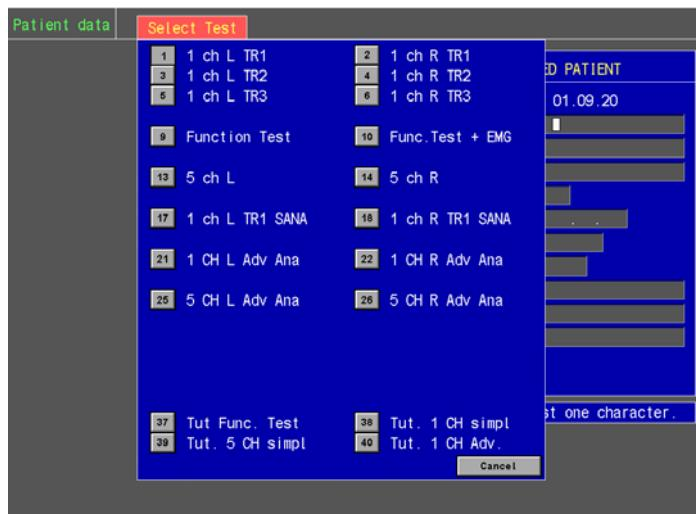

Figure 44 The Select Test Menu.
- Click **OK** to proceed to the Select Test Menu, see Figure 44 below.
- In the Select Test Menu, click the selectable button number **37** named: Tut. 1 CH simpl, see Figure 44 above.